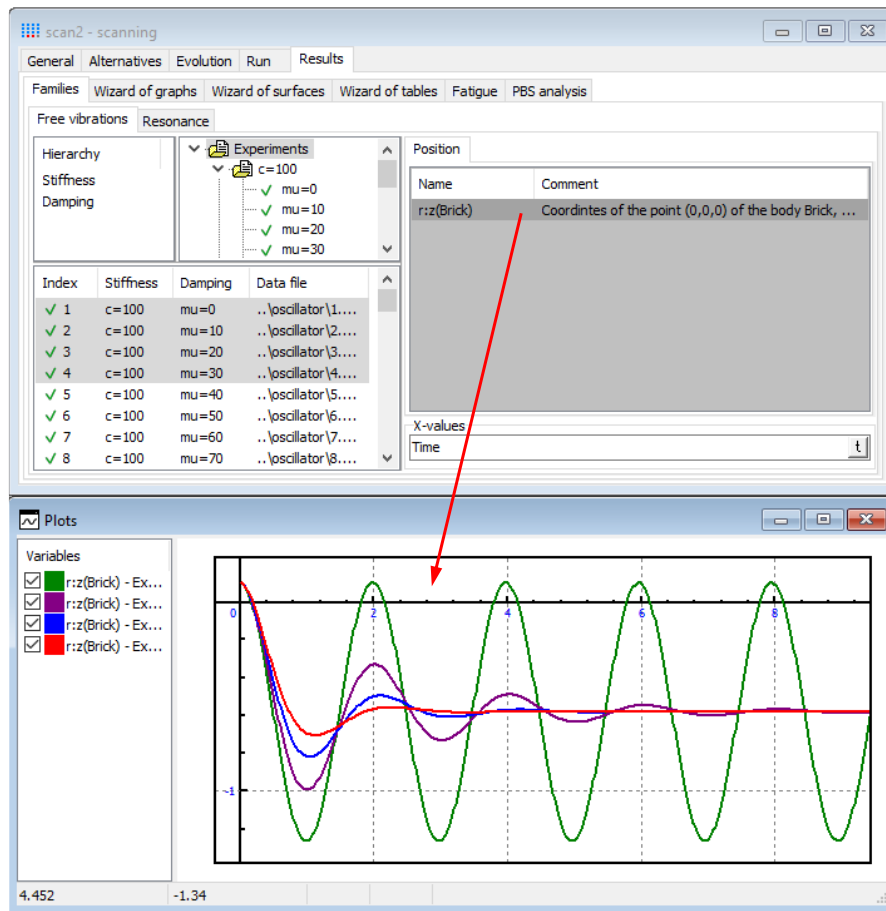

Figure 6.4. Scanning: processing results
After fulfillment of all numerical experiments their results are available for analyzing, see Figure 6.4. It is possible to get plots for any variable from the list of variables as well as summary graphs, surfaces and tables.
- When the project is finished simulation results are available for analysis, see Figure 6.4.